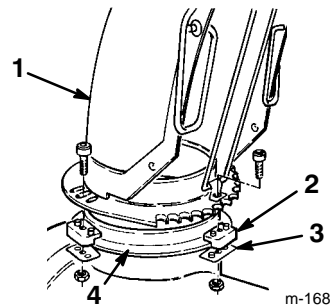

Figure 12
2. Set the discharge chute (open side forward) onto the auger discharge opening so that the plastic chute retainers are on the chute ring (Fig. 12).
3. Tighten the machine screw and the locknut on the left side to position the plastic chute retainer against the chute retainer plate and to secure the discharge chute to the chute ring (Fig. 12).
4. Push the chute retainers on the right side toward the discharge chute (slotted) and tighten the machine screw (Fig. 12).
5. Ensure that the chute rotates freely on the chute ring. If the chute binds, move the right-hand retainer outward (Fig. 12).